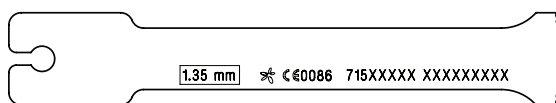

Figure 1
2. Attach a modular T-handle to the IM rod and insert through the alignment assembly (**Figure 1**).